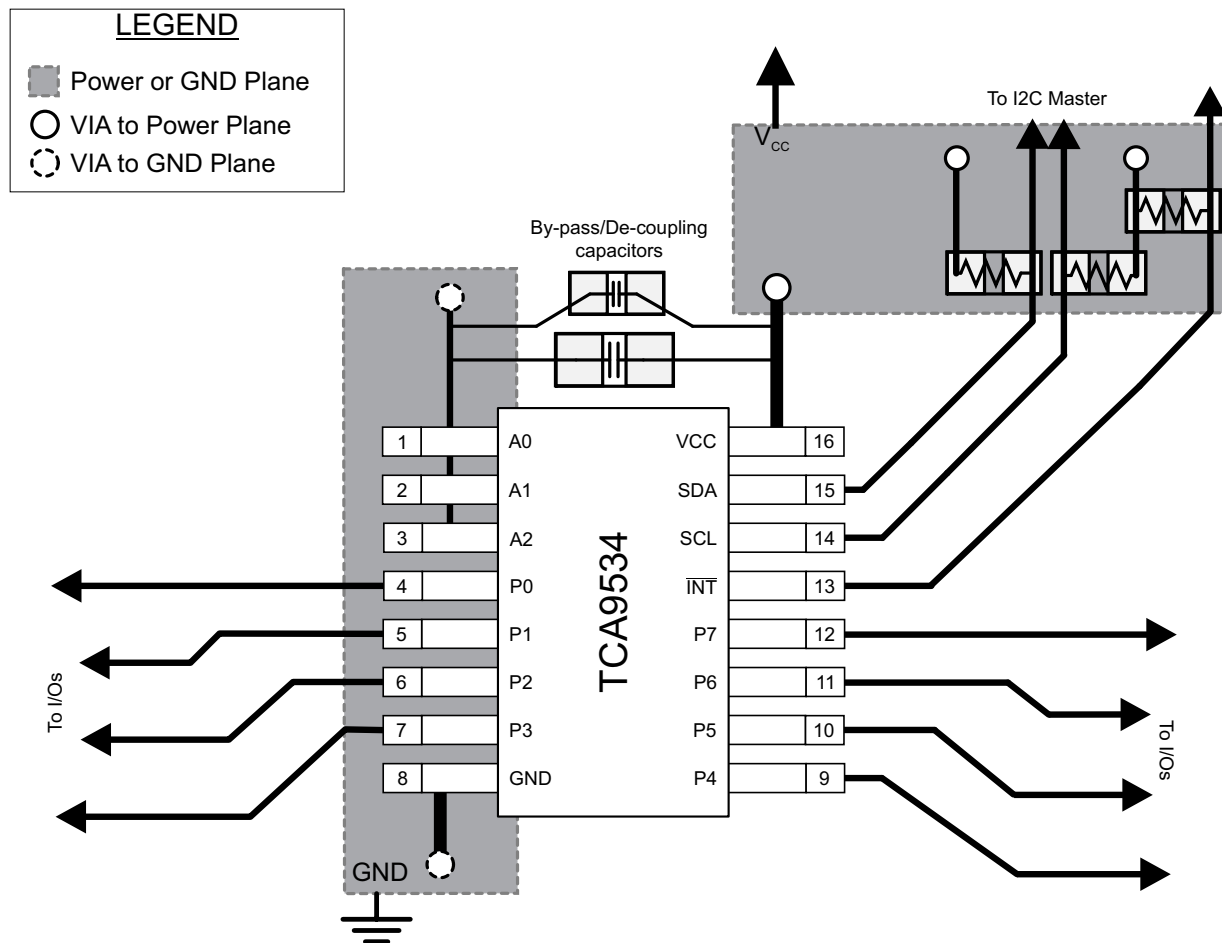

Figure 41. TCA9534 Layout
In all PCB layouts, it is a best practice to avoid right angles in signal traces, to fan out signal traces away from each other upon leaving the vicinity of an integrated circuit (IC), and to use thicker trace widths to carry higher amounts of current that commonly pass through power and ground traces. By-pass and de-coupling capacitors are commonly used to control the voltage on the VCC pin, using a larger capacitor to provide additional power in the event of a short power supply glitch and a smaller capacitor to filter out high-frequency ripple. These capacitors must be placed as close to the TCA9534 as possible. These best practices are shown in Figure 41.
For the layout example provided in Figure 41, it must be possible to fabricate a PCB with only 2 layers by using the top layer for signal routing and the bottom layer as a split plane for power (V_{CC}) and ground (GND). However, a 4-layer board is preferable for boards with higher density signal routing. On a 4-layer PCB, it is common to route signals on the top and bottom layer, dedicate one internal layer to a ground plane, and dedicate the other internal layer to a power plane. In a board layout using planes or split planes for power and ground, vias are placed directly next to the surface mount component pad which needs to attach to V_{CC} or GND and the via is connected electrically to the internal layer or the other side of the board. Vias are also used when a signal trace needs to be routed to the opposite side of the board, but this technique is not demonstrated in Figure 41.